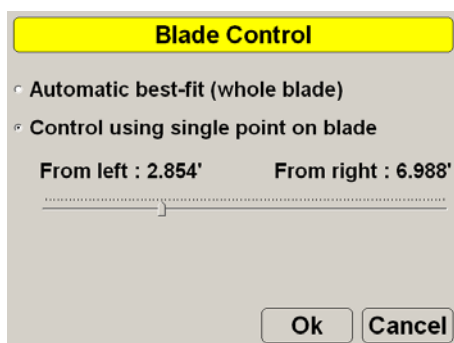

Figure 5-19. Blade Control Using Single Point on Blade
2. With *Control using single point on blade* selected, hold the slider button and move it left or right to select a point at a distance from the left/right side of the blade (Figure 5-19 on page 5-20).